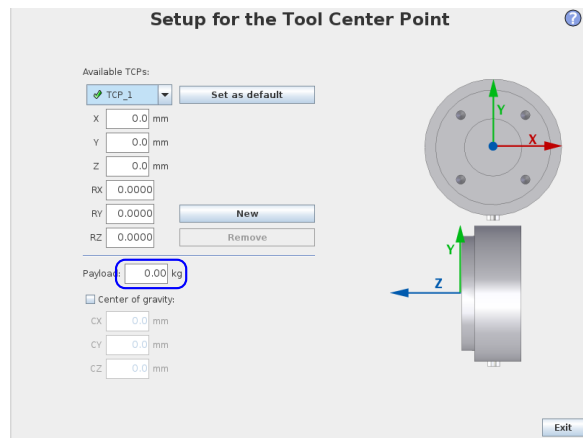

Figure 2.5: TCP settings
- (4) From the Initialization screen set the payload to 0 kg for both robot types, see Figure 2.5.